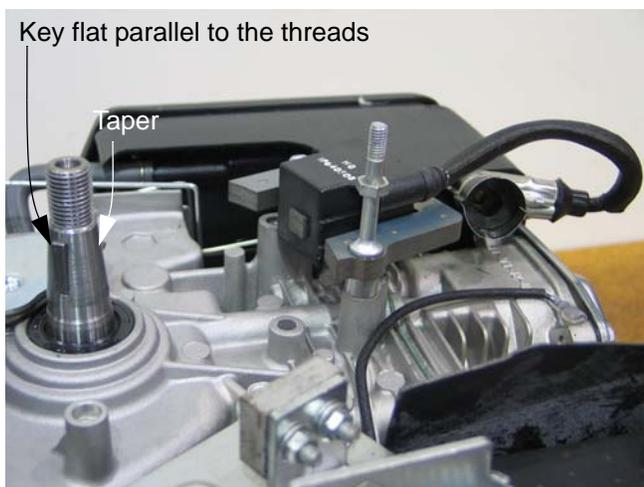

Figure 7.27
5. Inspect the key, keyway, and tapered mating surfaces of the flywheel and crankshaft. See Figure 7.27.